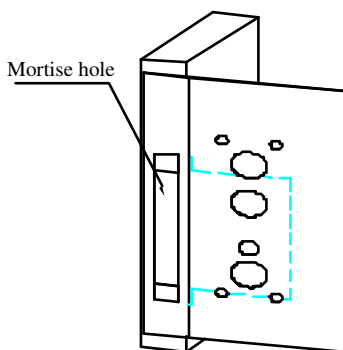

Figure 2
2) drew the lock body's insert port at the relative height on the side of the door, and make sure the insert port is in the middle of thickness of door. Show as figure 2.